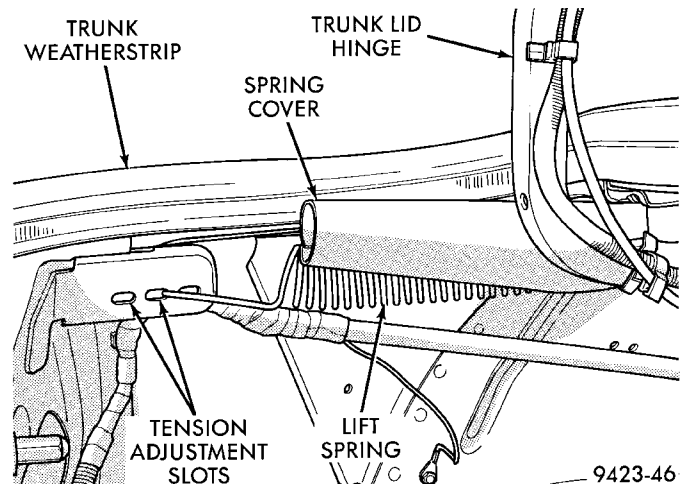

Fig. 73 Trunk Lid Lift Springs
- (1) Release trunk and open trunk lid.
- (2) Support trunk lid on a suitable prop device.
- (3) Pull split cover from lift spring (Fig. 73).
- (4) Using a common plier, disengage spring from adjustment slot under trunk opening side trough.
- (5) Disengage spring from trunk lid hinge.